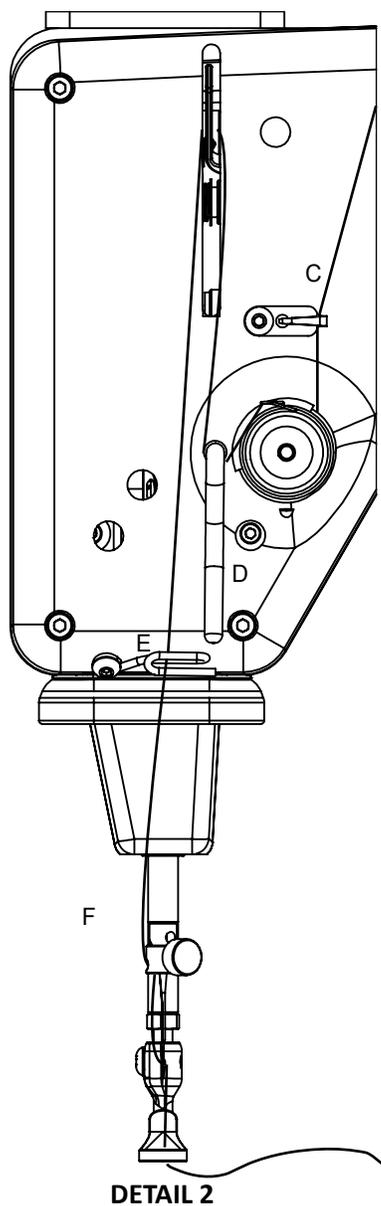

Figure 12
3. Thread continues through thread guide **C**, and then down to the **tension assembly** (see Figure 12).